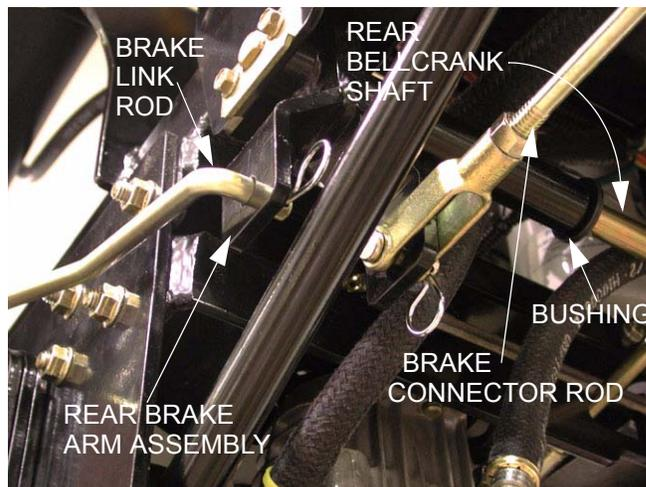

Figure 7.11
- 7.11. Remove the hairpin clip and clevis pin that secures the clevis on the end of the brake connector rod to the rear brake arm assembly on both sides. See Figure 7.11.